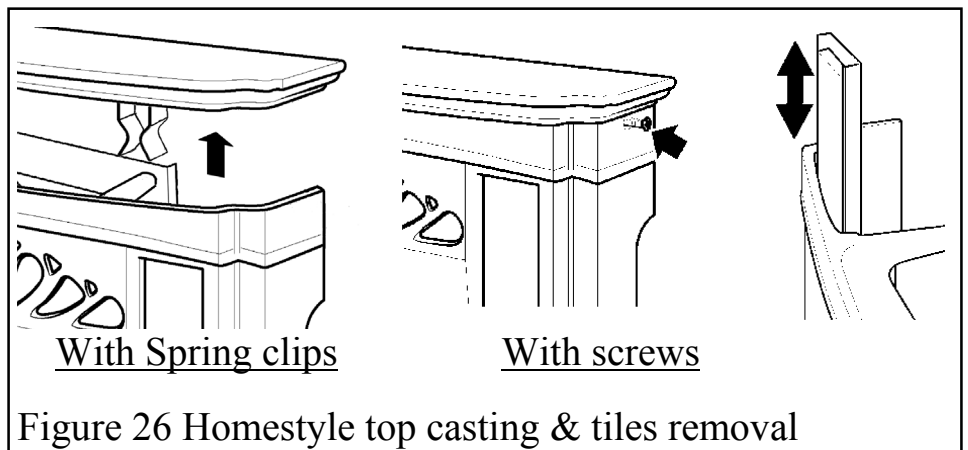

Figure 26 Homestyle top casting & tiles removal
If no screws are visible, simply remove the top by pulling firmly upwards to release the spring clips. See figure 26.
- Remove the complete tile cassette by sliding the cassette channel up and out of the front casting. See figure 26